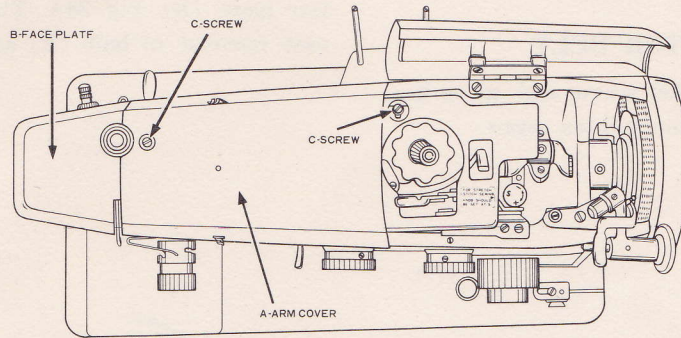

Fig. 32
To reach the parts inside the arm, remove the complete arm cover (A) Fig. 32 by removing